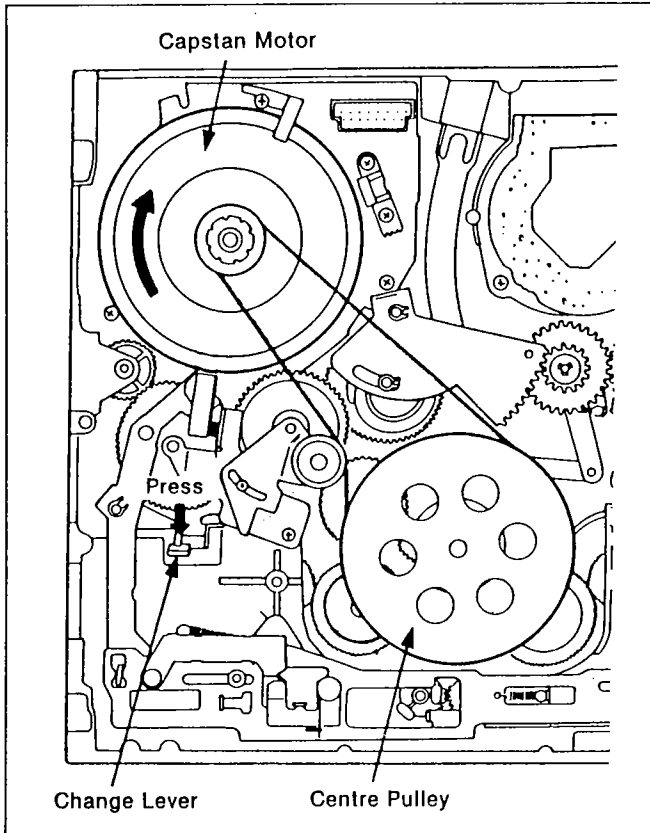

Figure M26
3. Turn the Capstan Motor to the clockwise while the change lever is being pushed until the loading is completed as shown in Figure M26.